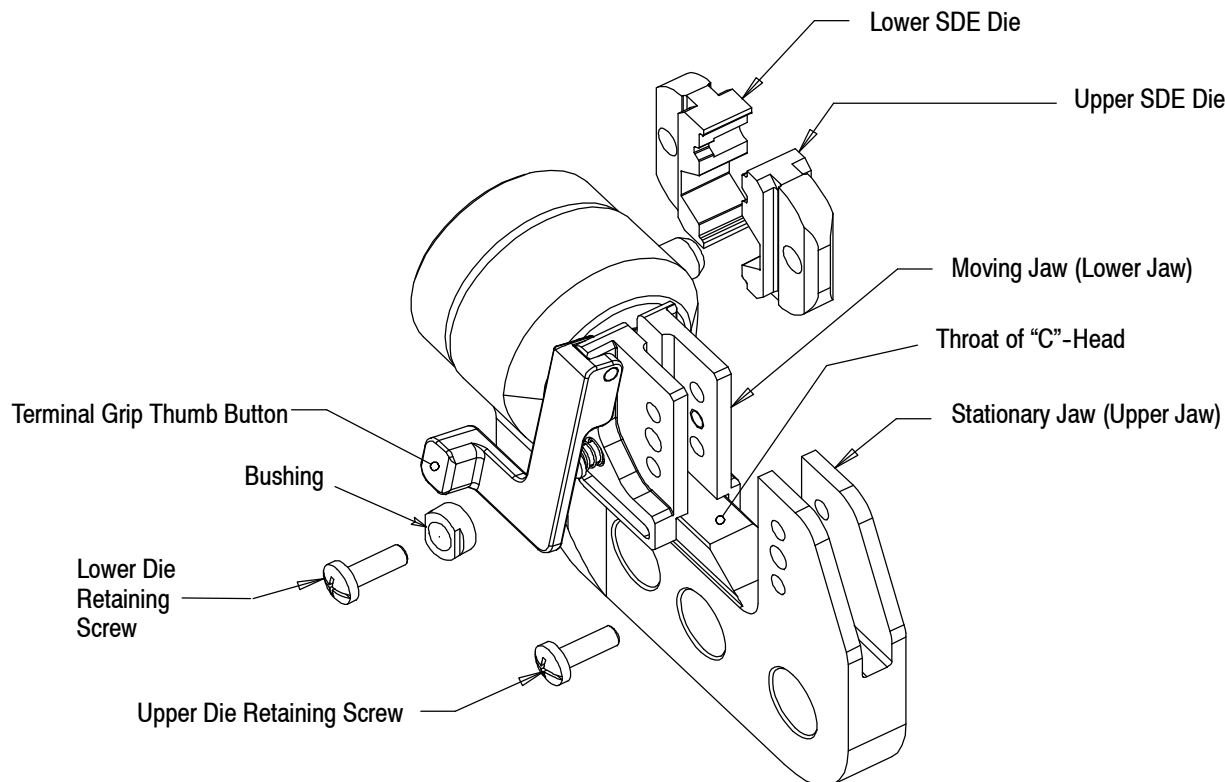

Figure 2
3.2. Installation/Removal of the Shoulder-Type SDE Dies (Figure 2)
2. Place the upper die in the upper jaw of the tool head so that the largest indenter or terminal cavity is facing **toward** the throat of the “C” head (see Figure 2).
3. Insert the die retaining screw through the upper jaw and through the die. Tighten the screw *just enough* to hold the die in place. Do **NOT** tighten the screw completely at this time. See Figure 2.
6. Release the lower jaw by pressing the terminal grip thumb-button to close the crimp jaws and fully seat the dies together. See Figure 2.
2. Press the terminal grip thumb button (Figure 2) to advance the lower tooling and hold the contact in place. Do not deform the terminal insulation or wire barrel.
- Added bushing to artwork in Figure 2,